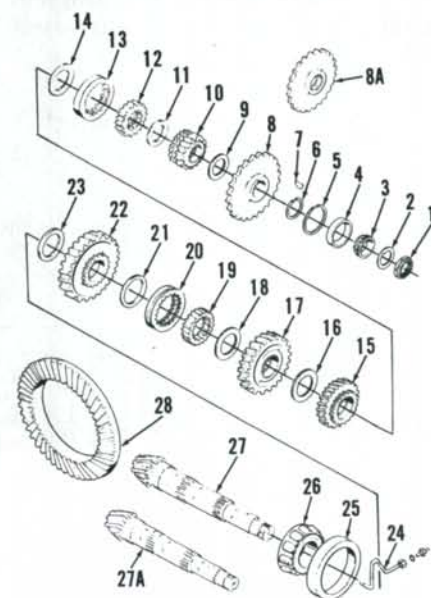
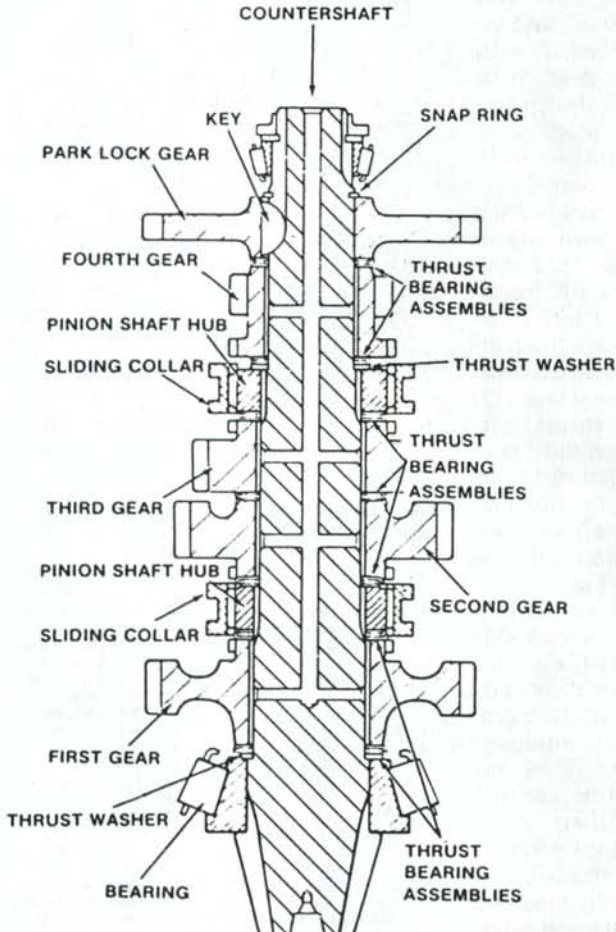
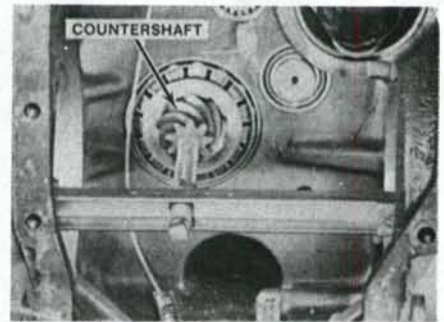
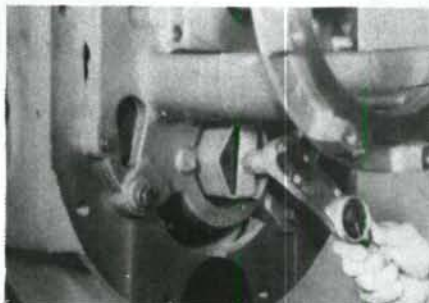

Fig. 180—Exploded view of typical four-speed gear countershaft used on all Model 2090, 2290, 2094 and 2294 tractors.
Fig. 181—Cross-sectional view of assembled countershaft and related parts.
Fig. 182—With differential removed, install jackbolt and bar to support countershaft for reassembly.
Fig. 185—View showing use of special socket CAS-1082 to aid in setting countershaft rolling torque. Refer to text.
Bend retainer nut (1—Fig. 180) lip from notch in countershaft and remove nut and thrust washer (2). Remove snap ring (6) from shaft. Using a brass drift, drive countershaft rearward approximately 1/4 inch (6.35 mm) and install a suitable puller and remove front countershaft bearing cone (3). Push countershaft assembly rearward until out of park lock gear (8) and remove Woodruff key (7) (on models equipped with transmission S/N 10237494 and below) from countershaft. Push countershaft rearward while removing items (9 through 18) out top of access opening. Park lock gear cannot be removed until fourth, third and second gears are removed. Remove park lock gear (8), then remove remainder of items (19 through 23) out top of access opening and withdraw countershaft from rear of transmission.
Assemble countershaft as follows: If rear pinion bearing cone (26—Fig. 180) was removed, heat bearing cone to a temperature of 250° F (120° C) and install bearing cone on countershaft with large side toward pinion gear. With countershaft standing vertical with pinion gear down, assemble shaft components as follows: Install 1/8 inch (3.18 mm) thick thrust washer from thrust bearing (23), then install needle bearing and cup washer, cup side down. Install first gear (22) hub gear end up. Install thrust bearing (21) cup side up. Install pinion shaft hub (19) with 1/4 inch (6.35 mm) recessed spline side down, then install shift collar (20). Install thrust bearing (18) cup side down; second gear (17) hub gear end down. Install thrust bearing (16) cup side down, then third gear (15) hub gear end up. Install thrust bearing (14) cup side up. Install pinion hub (12) with 1/4 inch (6.35 mm) recessed spline side down then install shift collar (13). Install thrust bearing (11) with 1/8 inch (3.18 mm) thrust washer first and remainder of assembly cup side down. Install fourth gear (10) with hub gear end down. Install thrust bearing (9) with cup side up. Install park lock gear (8) and key (7) (on models equipped with transmission S/N 10237494 and below) on shaft. Tap park lock gear with hammer to make sure there is no clearance between assembled parts. Install a shim type snap ring (6) and measure clearance between snap ring and park lock gear. Install appropriate
thickness snap ring until 0.003-0.011 inch (0.08-0.28 mm) clearance is obtained. Snap rings (6) are available in thicknesses of 0.078, 0.088, 0.098, 0.108, 0.118, 0.128, and 0.138 inch (1.98, 2.24, 2.49, 2.74, 3.0, 3.25 and 3.5 mm). See Fig. 181 for cross-sectional view of assembled countershaft. Remove all parts from countershaft for assembly into transmission.
If front bearing cup was removed, install snap ring (5—Fig. 180) and press cup (4) into bore against snap ring. Install countershaft through rear of transmission case assembling parts in order shown in Fig. 181. Install a bar and bolt as shown in Fig. 182 to hold countershaft rigid and in correct position for installation of front bearing. Heat front bearing cone (3—Fig. 180) and install on front of countershaft, then install thrust washer (2) and retainer nut (1).
162. COUNTERSHAFT BEARING PRELOAD. Remove bar and bolt shown in Fig. 182. Tighten countershaft retainer nut, while rotating countershaft
When reassembling, press bearing cup (19—Fig. 184) into transmission case from the rear, press bearing (18) onto countershaft, install part way into transmission and install thrust washer (20) onto shaft. Install gears, thrust washers, splined hubs and sliding collars as shown, making sure splined hubs on gears face toward both sliding collars. Before installing fourth gear (33) and thrust collar (34), install a jackscrew to support countershaft as shown in Fig. 182. Install thrust collar (34—Fig. 184) with oil grooves toward rear of transmission. Install thrust washer (36) and snap ring (37) onto shaft without shim pack (35). Push gears rearward and measure clearance between thrust washer (36) and thrust collar (34). Correct clearance should be 0.017-0.019 inch (0.4318-0.4826 mm). If clearance exceeds 0.019 inch (0.4826 mm), remove snap ring (37) and thrust washer (36) and add correct thickness of shims to obtain desired clearance, then reinstall thrust washer and snap ring. Shims are available in thicknesses of 0.002, 0.006 and 0.010 inch (0.051, 0.152 and 0.254 mm). Install shifter forks and rail as outlined in paragraph 157. Reinstall power shift assembly and install bearing cone (39) in power shift carrier. Install thrust washer (40) and retainer nut (41), making sure that nut is installed exact number of turns as when removed and align marks precisely to obtain proper bearing preload. If any of the aforementioned parts were renewed, socket wrench No. CAS-1082 (A—Fig. 184) can be used to calibrate rolling torque with a torque wrench as shown in Fig. 185. Install retainer nut (41—Fig. 184), tighten nut until zero end play (or no noticeable drag) is obtained, then strike both ends of countershaft with a soft hammer to be sure bearings are seated and recheck free rolling torque. Check and record the no-load rolling torque, then tighten retainer nut until rolling torque is 25-35 in.-lbs. (2.8-4.0 N·m) us-